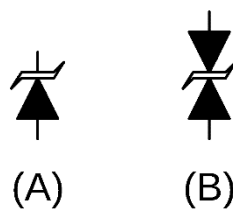

Figure 1: Unidirectional TVS Diode, (B) Bidirectional TVS Diode.
Factors such as high-amplitude signal noise, electromagnetic interference (EMI), electrostatic discharge (ESD) increase the peak of the voltage amplitude in the transmission line to higher values. These surges can damage the normal operation of unprotected circuit elements on the transmission line and ultimately cause permanent damage. In order to prevent these damages, different types of diode protection are used in circuit designs. One of these diode types is TVS (Transient Voltage Suppression) diodes. Their symbols are shown in **Figure 1**.
Figure 1: Representation of Protected Systems and Lines 1&2 (Digital / Analogue Data, Switching, Power Supply) with (A) Unidirectional TVS Diodes, (B) Bidirectional TVS and Array Diodes, (C) Bidirectional TVS Diodes, (D) Unidirectional TVS and Schottky Diodes.